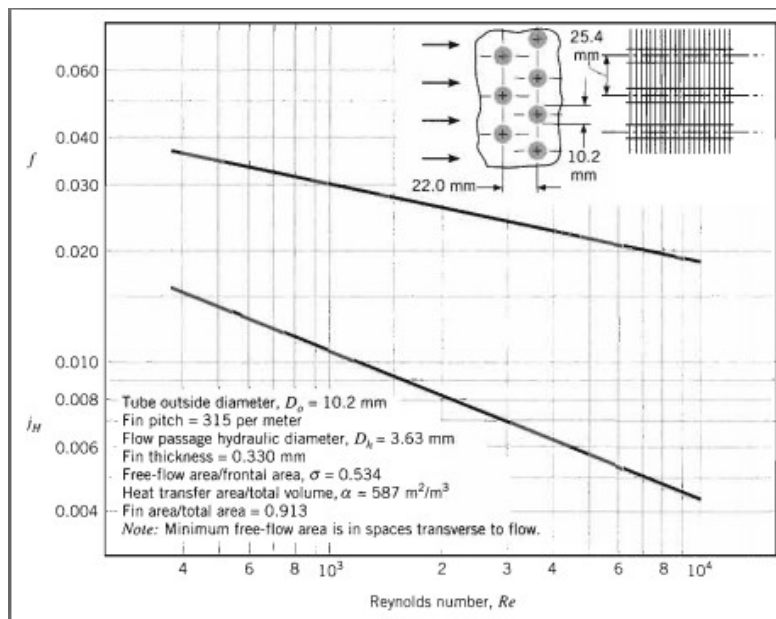
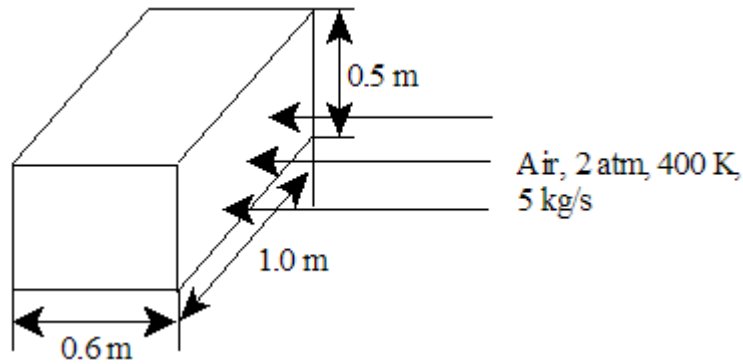

Fig.1. Heat transfer and friction factor for plate-finned circular tube matrix heat exchanger
Fig. Prob.4C.19
Example 4C.19: Air at 2 atm and 400 K flows at a rate of 5 kg/s, across a finned circular tube matrix, for which heat transfer and friction factor characteristics are shown in Fig.1 above. Dimensions of the heat exchanger matrix are: 1 m (W) × 0.6 m (Deep) × 0.5 m (H), as shown in Fig.Prob.4C.19. Find: (a) the heat transfer coeff. (b) the friction factor, and (c) ratio of core friction pressure drop to the inlet pressure.
From Fig.1, we have: